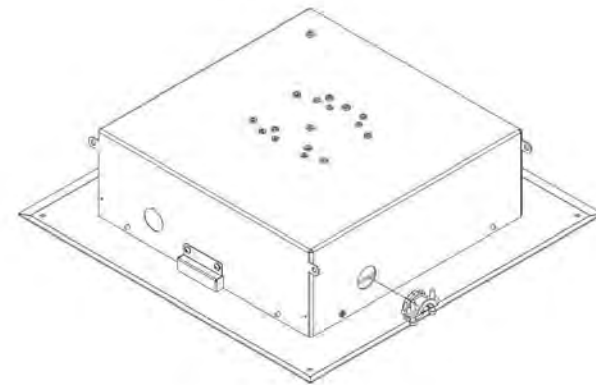

Figure 1 - Cable clamp installation.
Step 1 – Remove the metal hole cover(s) and install clamp connector(s). Use two clamp connectors if both power and data lines are to be installed. If only a data line is required (when using power over Ethernet), only one clamp connector will be required (Reference *Figure 1*).